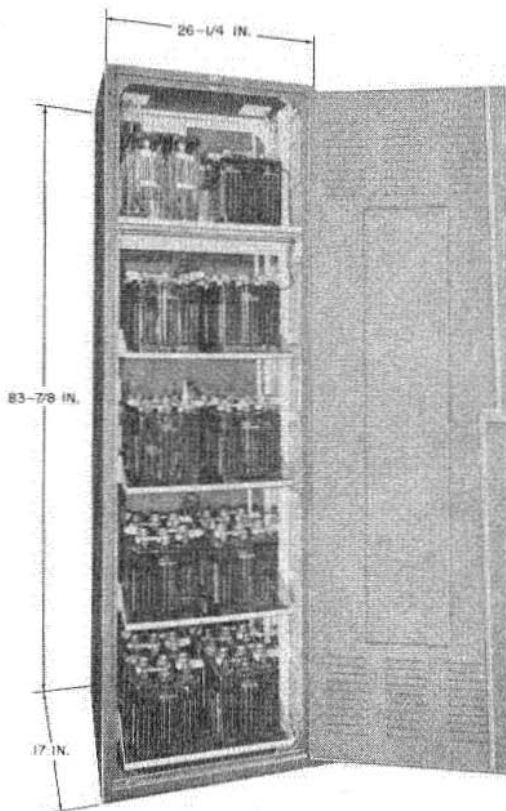

Fig. 16—45-Plate Apparatus Cabinet per ED-91981-70
4.07 The 45-plate apparatus cabinet per ED-91981-70\* (Fig. 16) is a metal cabinet with a hinged door in front and back. The cabinet is drilled for floor mounting. It is shown in Fig. 16 as a housing for storage batteries.